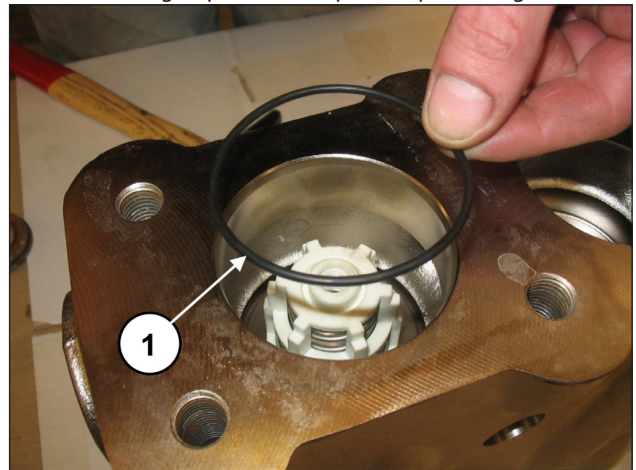

Fig. 127
Insert the O-ring, exploded view pos. 17 (pos. ①, Fig. 127).